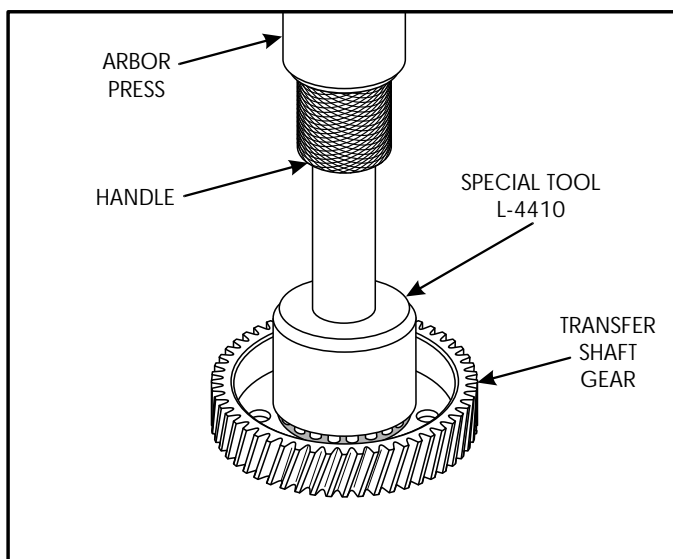

Figure 192
8. Install new bearing cone on transfer shaft gear using special tool L-4410 and an arbor press, as shown in Figure 192.